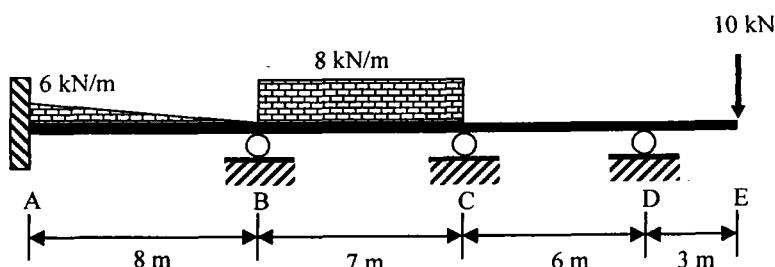

Figure 4 / Rajah 4
3. (a) Figure 4 shows a beam carrying a triangular load of 6 kN/m and a uniformly distributed load of 8 kN/m on span AB and BC, respectively. Support A is fixed and support B, C and D are rollers. Using **moment distribution method**, calculate internal moments at all supports of the beam. Assume value of EI is constant and neglect axial deformation. Hence, sketch the deflected shape and bending moment diagram of the beam.
- (b) If point E for the continuous beam in Figure 4 is fixed, sketch new bending moment diagram and deflected shape of the beam.